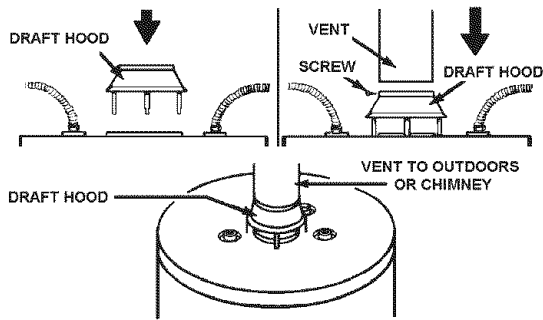

FIGURE 18.
- Place the vent pipe over the draft hood. With the vent pipe in position, drill a small hole through both the vent pipe and draft hood. Secure them together with a sheet metal screw. See Figure 18.